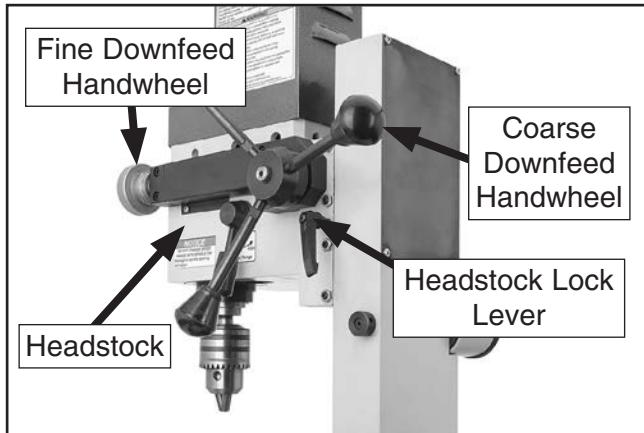

Figure 14. Location of headstock lock lever and coarse downfeed handwheel.
The coarse downfeed handle and fine downfeed handwheel (see **Figure 14**) move the spindle up and down for various milling/drilling operations.
1. Loosen headstock lock lever and pull out on coarse downfeed handle to engage (see **Figure 14**).